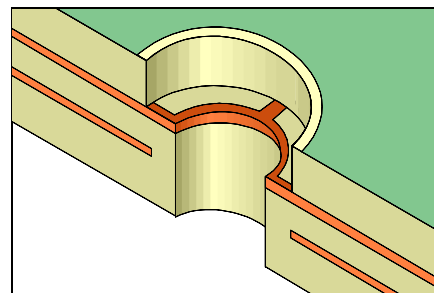

Figure 2: Mill down to and expose inner layer signal or plane.
7. Select an end mill approximately .050 - .075 mm (.020" - .030") larger than the eyelet diameter. Insert into the Precision Drill System and mill down to and expose the inner layer signal or plane. (See Fig. 2).